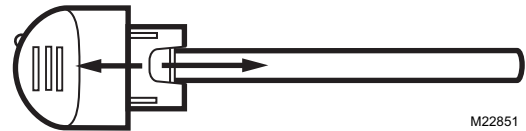

Fig. 16. Disconnect lamp glass from SnapLamp™ handle.
5. If you have a SnapLamp™ handle, follow steps 5 and 6; otherwise, proceed to step 7. Grasp the SnapLamp™ handle in one hand and the lamp glass in the other and pull straight apart. See Fig. 16.